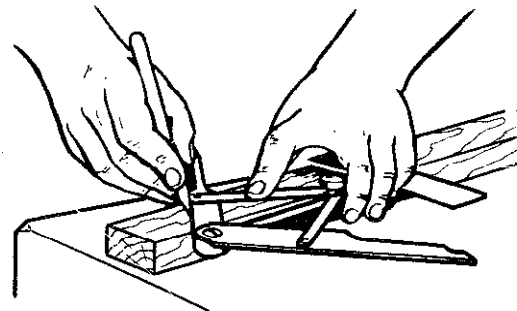

Fig. 4-38 Laying out the miter of an angle
2. To lay out the miter of an angle, the body of the divider is held against the edge of the board, as shown in figure 4-38. The blade is used as a guide for marking.